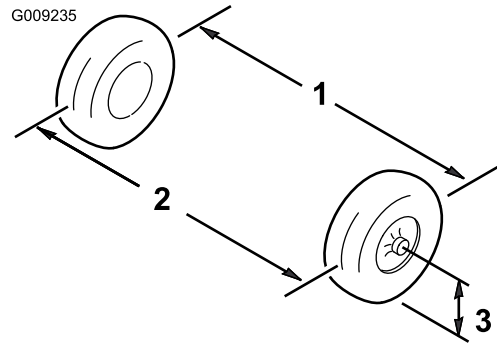

Figure 41
2. Measure the distance between both of the front tires at the axle height at both the front and rear of the front tires (Figure 41).